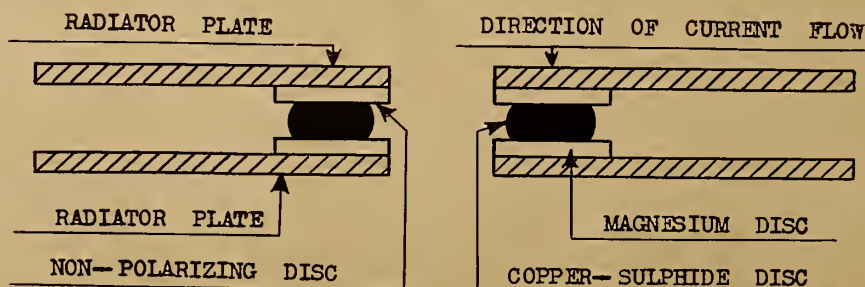

FIGURE 1
**T**HE magnesium-copper sulphide rectifier is of the dry-disc type, *all metal* in construction and containing no fibre or phenol insulators, no glass, no liquid and no moving parts. It is entirely noiseless in operation and produces no radio interference. The rectifier consists of an assembly of magnesium discs, copper sulphide discs and a combination of terminal and radiator plates which assist in dissipating the heat developed in the rectification process. Fig. 1 is a cross-sectional view of a typical rectifying junction with its associated steel radiator plates.
**Operation:** The rectifying action occurs at the junction interface, and being electronic in nature assures permanence and stability of the rectifying elements, with no odors or gases being liberated at any time. Current will flow freely in the direction of the arrow, as indicated in Fig. 1, or from the copper-sulphide disc to the magnesium disc; but the resistance to the flow of current in the reverse direction—that is, from the magnesium disc to the copper-sulphide disc—is very great, thus the rectifier serves practically as a unidirectional conductor or valve. A commercial rectifier of this type consists of a number of these junctions stacked in series on a steel bolt or stud. The voltage output required determines the number of junctions in any one stack.